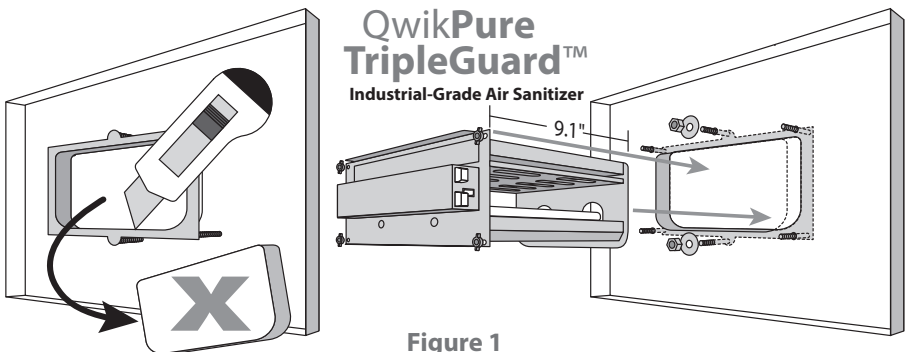

Figure 1
5. Cut an opening along the inside opening of the flange as shown in Figure 1. Before cutting, ensure the QwikPure TripleGuard™ will fit in the planned space.
- a. Hold the exterior mounting flange against the metal duct and cut an opening along the inside opening of the flange. Before cutting, make certain the QwikPure TripleGuard™ will fit in the planned space. (see Figure 1). Cut an opening along the inside opening of the flange.